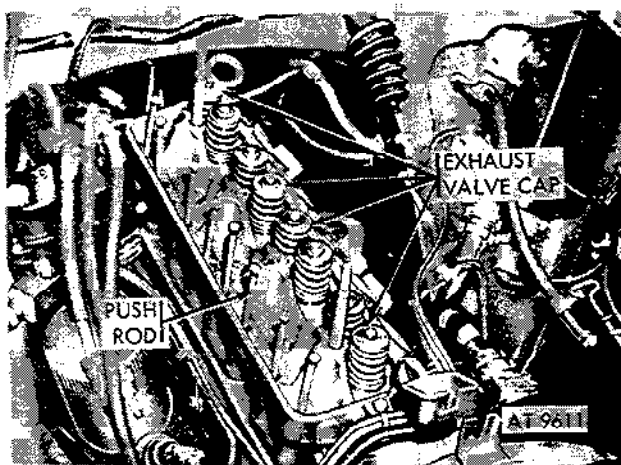

Figure 2-64. Remove push rods and valve caps.
(17) Remove eight valve push rods and four exhaust valve caps in sequence and mark for installation in original position (fig. 2-64).